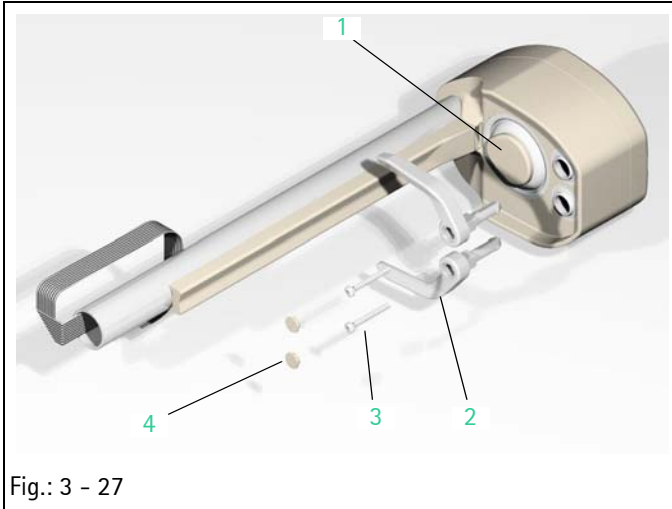

Fig.: 3 - 27
9. Pull the side part of the housing (Fig.: 3 - 26 / Item 1) out of the bottom part.
Legend of fig. 3 - 27: